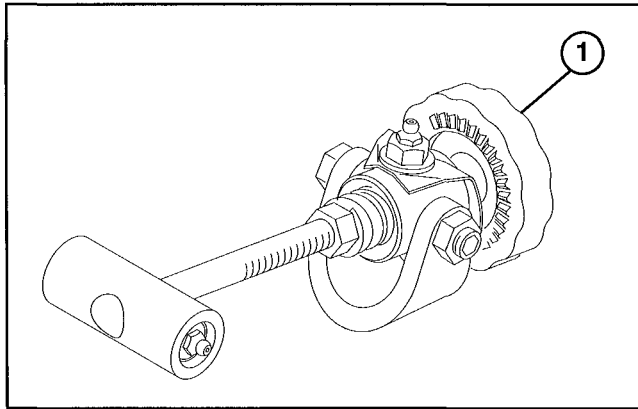
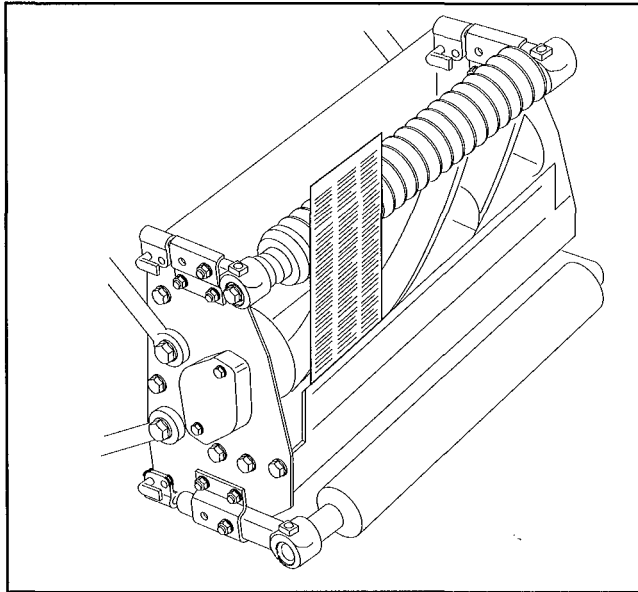

Figure 2
Figure 3
1. Make sure reel contact is removed by turning bedknife adjustment knob counterclockwise (Fig. 2). Tip cutting unit to gain access to reel and bedknife (Fig. 3).